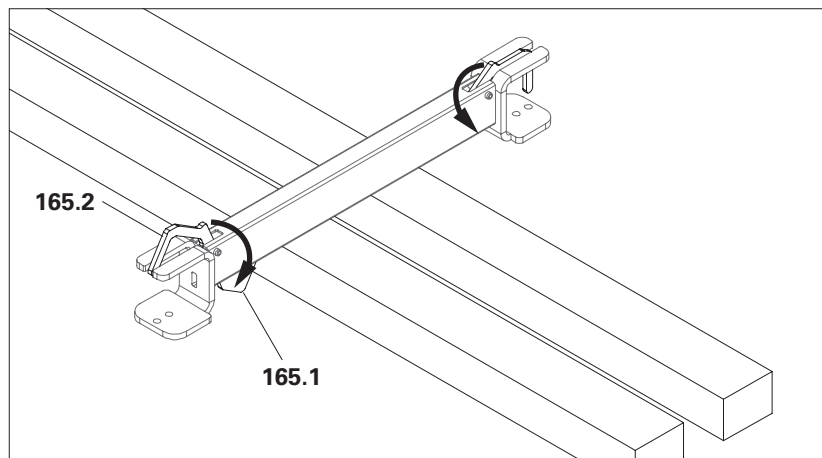

Fig. A7.04a
1. Turn the deck traverse to the head side so that the grips (**165.1**) of the drop ledger (**165.2**) protrude. (Fig. A7.04a)